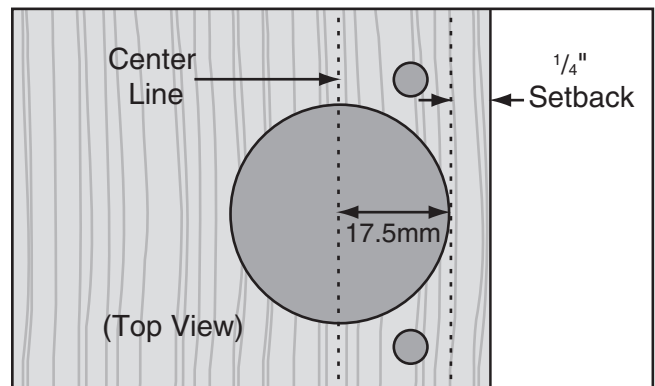

Figure 40. Example of marking setback and centerline.
2. Mark the hinge cup center line, as illustrated in **Figure 40**. In this example, the center line is 17.5mm from the setback, which itself is $\frac{1}{4}$ " from the cabinet door edge.